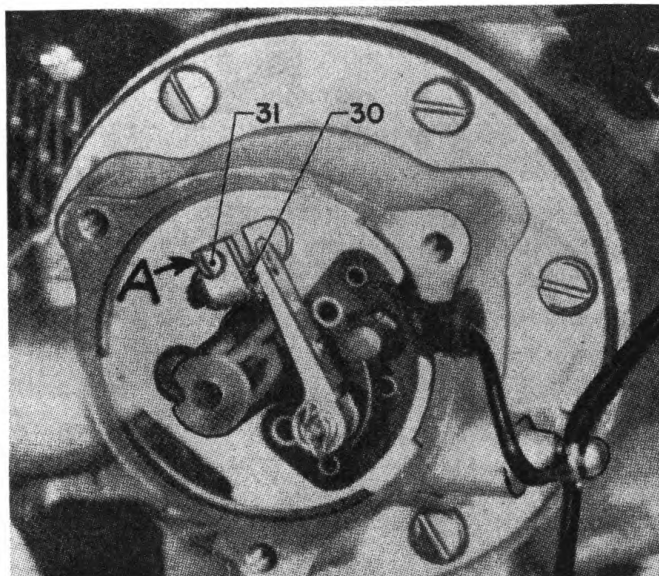

FIGURE 1.
4. Description.—*a.* The generating unit M1 (figs. 1 to 16) is a portable, gasoline-driven, 650-watt, 12-volt, direct current generating unit, complete with storage batteries, conductors, panels, extension cords, lamp reflectors, and switches necessary to supply current for a lighting system consisting of six 3-candlepower, and eight 21-candlepower incandescent lamps.
(3) *Ignition*.—The ignition system (fig. 1) of the generating unit MI includes a high-tension flywheel type magneto. The spark should jump a gap of at least $\frac{1}{4}$ inch when the engine is spun quickly. The only adjustment in the ignition system is at the interrupter points which should be inspected occasionally to see that the gap is 0.020 inch with points wide open. To make this adjustment proceed as follows:
(a) Remove starting pulley end cap (1, fig. 7) to expose interrupter points (30, fig. 1).
(b) Turn flywheel until points are wide open. (Removal of the spark plug permits turning the flywheel easily as there is then no compression.) Loosen clamp screw (31, fig. 1), clean and file points, and set at 0.020 inch. Tighten clamp screw after adjusting.